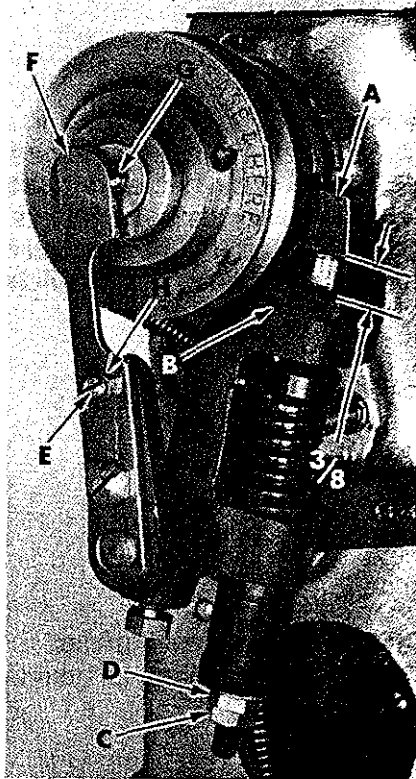

Fig. 1
This position is that which is shown in Fig. 1 with the stop motion disc and pawl against the plunger (A).
With machine in stop position, stop motion plunger (A, Fig. 1) should be set so that there is $\frac{3}{8}$ inch between the bottom of plunger and plunger lever bracket (B). Loosen the lower lock nut (C) and adjust upper nut (D) to obtain this setting. Lock lower nut. Adjust screw (E) in cam lever (F) so that there is $\frac{1}{32}$ inch clearance between ball (G) and thin section of lever when the pulley is pressed in toward machine. Lock screw with nut (H).